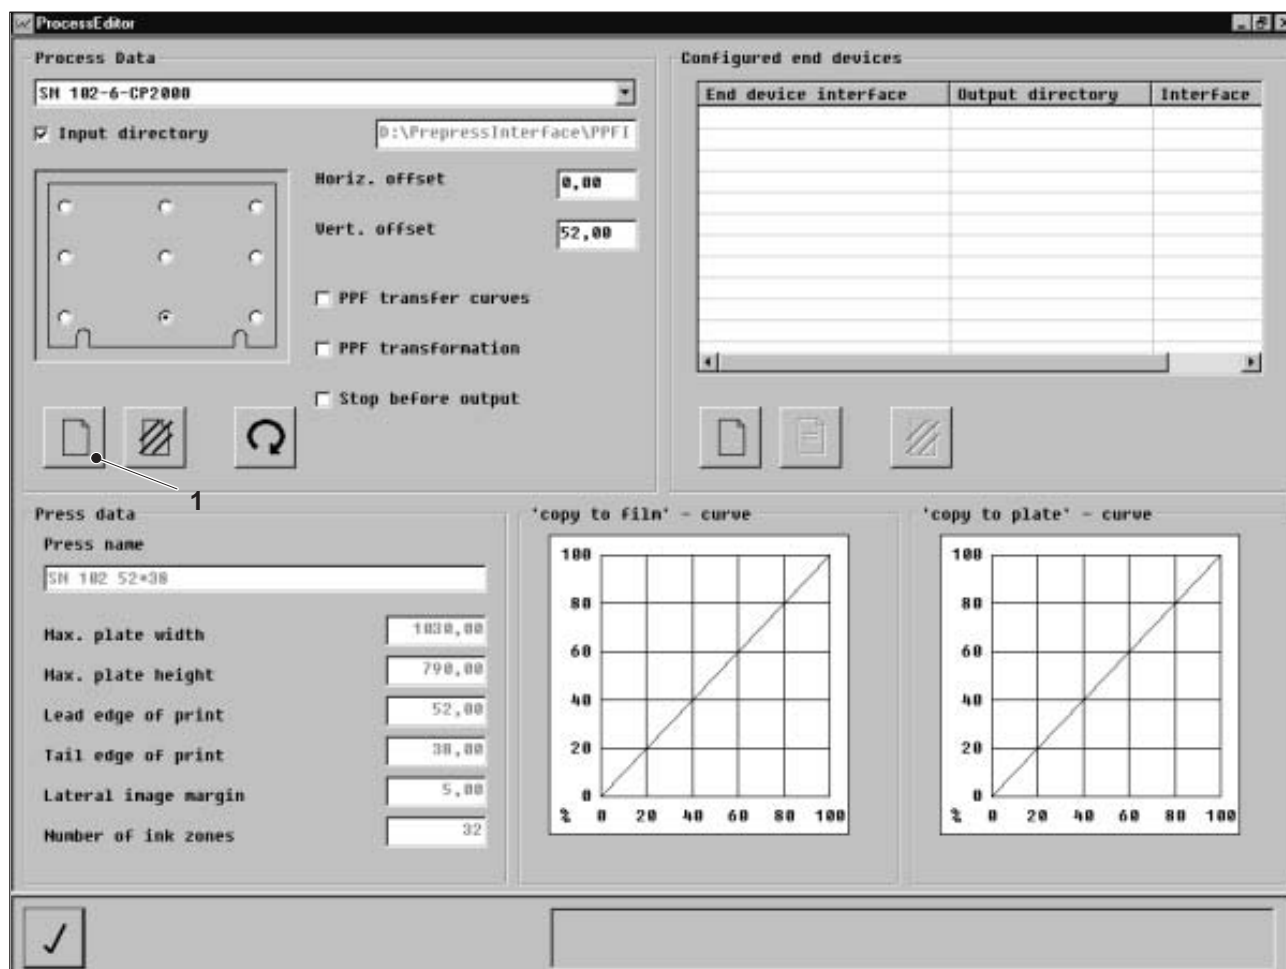

Fig. 9 Process editor
- To draw up a new input directory click on the button New (Fig. 9/1).